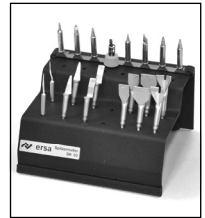

Figure 11
- Place the hot soldering/desoldering tip on a fire-resistant base. Therefore we re-recommend our special holder SH 03 (fig. 11).